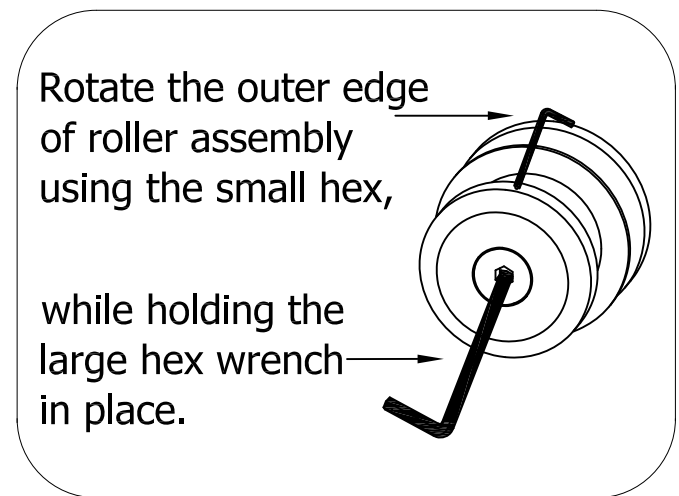

Fig. 21
**Note: In Fig.21 the hole locations for attaching sliding door track divider should be 1 13/16" from edge of Large Fixed Glass (3).**
See Fig.21 for details.